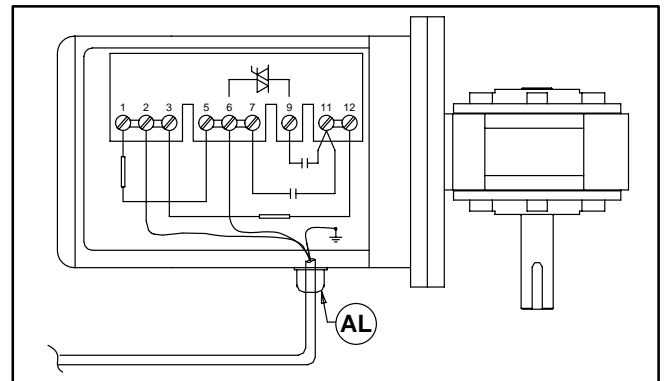

Figure 19
- b. Record wire colors on terminals 2, 6 and ground ( $\perp$ ) (Figure 19). Loosen terminals 2, 6 and ground and remove wires.
- c. Loosen cord grip (AL of Figure 19) and remove cord.